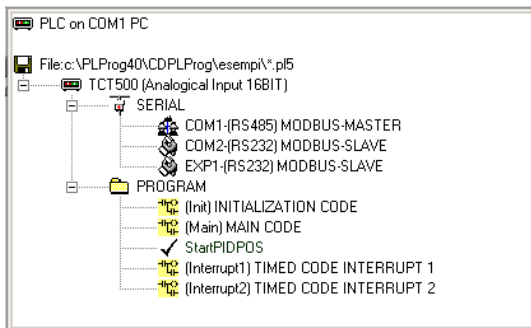

Figure 6.24: The window refers to the same situation as the previous figure. In this case the program settings are shown.
- The PLC selected by the user and the settings for the serial ports (Figure 6.24). In general the same ladder diagram cannot be compiled and transferred onto two separate PLCs. To change PLCs or the serial settings, open the window shown in Figure 5.1 with a click on a line in this field.